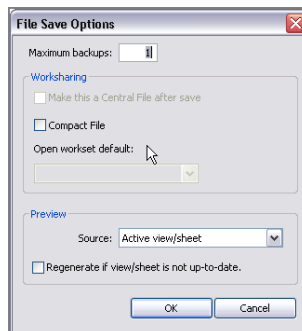

FIGURE 1.52: The options in the File Save Options dialog box let you specify the number of backups and the view for the preview.
3. In the File Save Options dialog is a place at the top where you can specify the number of backups, as shown in Figure 1.52. Set this value to 1.